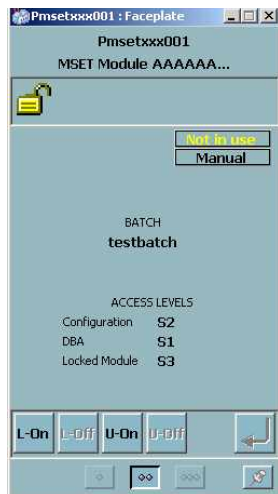

Figure 219. MSET Module
**Module Set (MSET).** The Module Set module faceplate represents a definition for associating a logical grouping of Controlware modules in an 800xA for DCI controller. Entering the MSET number into the MSET atom of each Controlware module makes the logical grouping. The MSET allows single commands for locking, unlocking, or changing security access levels to be invoked across all modules in the group at once. The MSET module reports the lock state, the security levels for 3 data access types, the batch name currently in use (Note that 800xA batch management is not yet supported by 800xA for DCI), and alarm status are used for display in the faceplate. Figure 219 shows the layout of the MSET normal sized faceplate and its attributes.